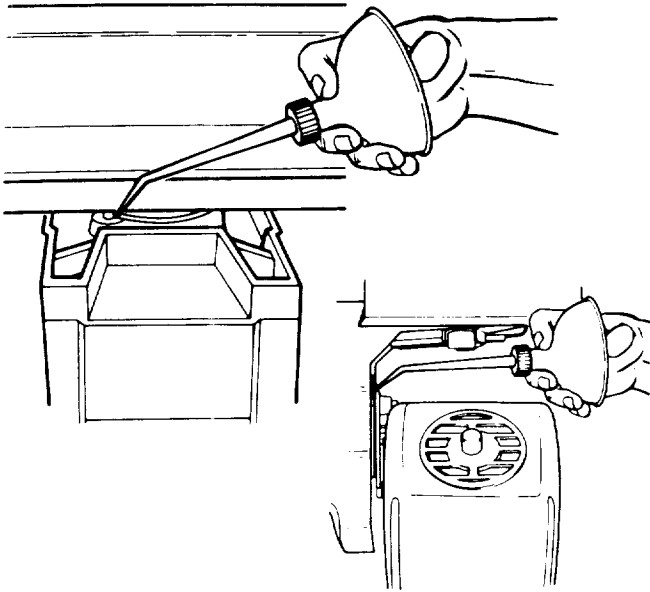

Fig. 151 - Swivel and Bevel Index Pins
- Apply a few drops of oil along the *swivel index pin* and the *bevel index pin* only if the pins have a tendency to stick. Swivel to in-rip or out-rip for easy access to the *swivel index pin*. Bevel to 45° and the *bevel index pin* can be easily accessed behind the yoke as illustrated (Figure 151).